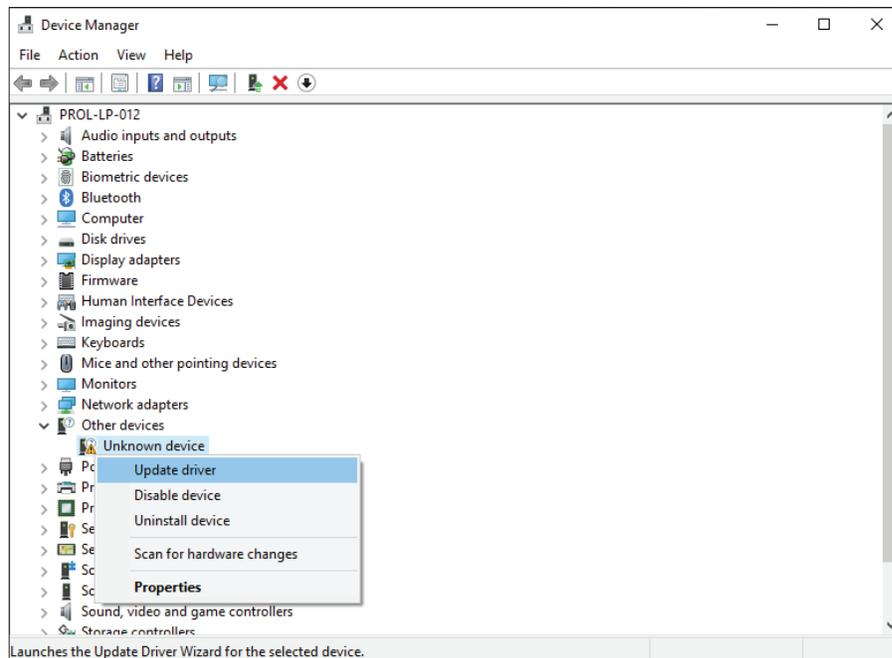

Figure 30
1. Right click on the “Unknown Device “and select “Update Driver” or “Update Driver Software”. (Figure 30)